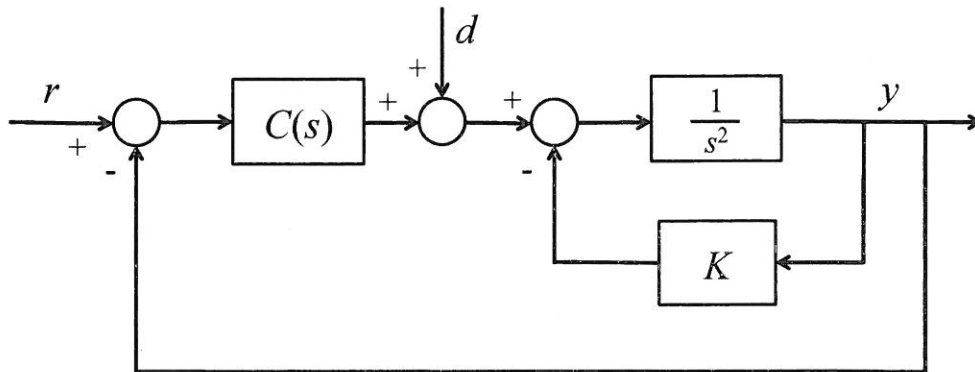

Figure Q2: Feedback Control System.
Q.2 Figure Q2 shows a feedback control system.